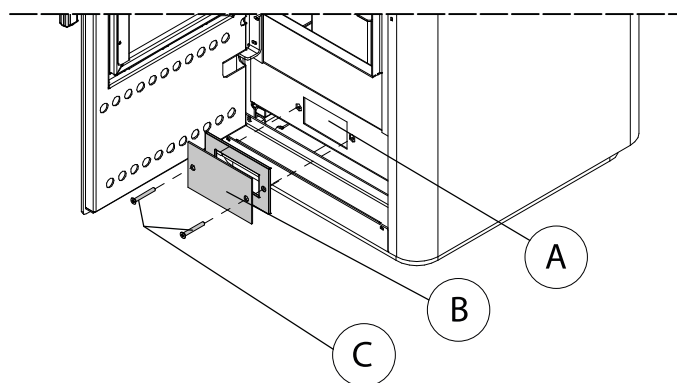

Fig. 6.1.2
- 1) For easy access to the fan (A), just remove the cap (B) and relevant gasket, then turn the two screws (C) (Fig. 6.1.2). Vermiculite and/or rock wool.